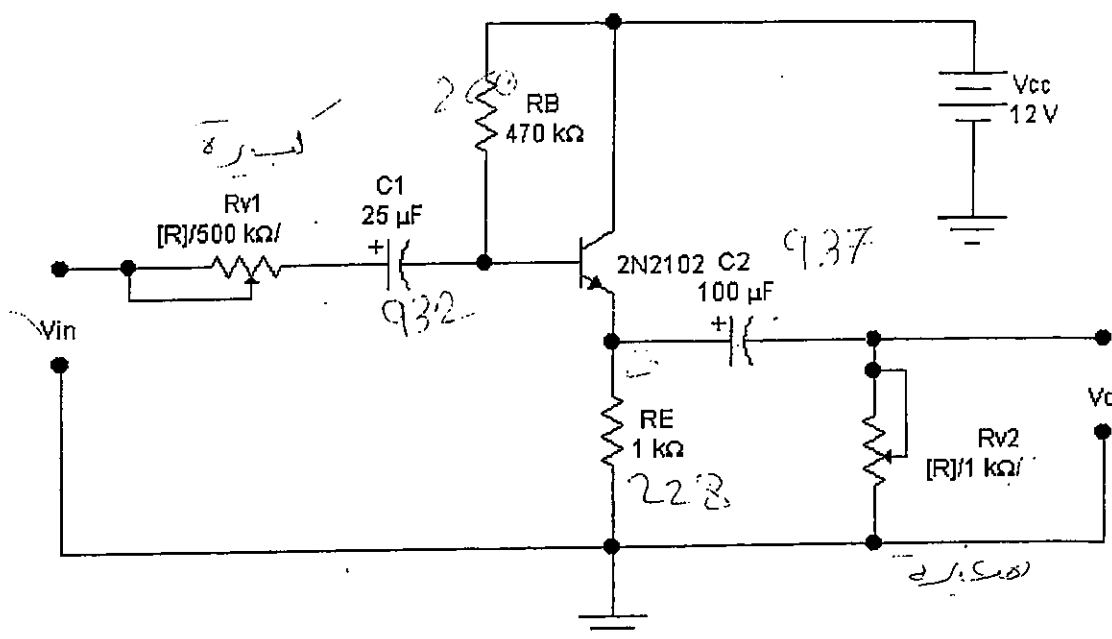

Fig 8.2
- 1- Connect the circuit of Figure 8.2 with  $R_{V1}$  set to zero ohms.